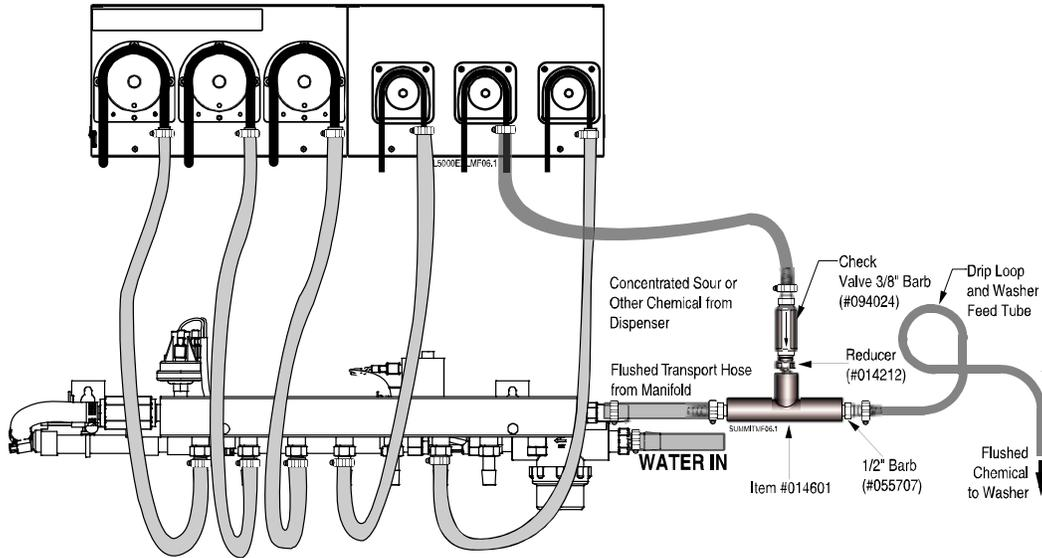

Figure 6a. XL Flush Manifold, Mounted on Wall with Sour Flush hook-up
*To prevent the mixing of any chemicals, the XL, in combination with the XL flush manifold will flush the manifold with water before and after chemicals are pumped. Despite this safeguard, you must not run sour and bleach or other incompatible chemicals together into the manifold. Instead, route one to the manifold and the other downstream via a separate delivery line. A Sour Flush Kit (#069505) is available for this type of installation. See Figure 6a and **Routing Incompatible Chemicals** later in this section.*
For safety reasons, you must not run sour and bleach or other incompatible chemicals together into the E or XL manifolds or into the same section within the Tunnel Flush manifold. Instead, route one to the manifold and the other downstream. Because the incompatible chemical’s delivery tube is not flushed, the product can remain in the tube, dripping onto the washer feed hopper or collecting in the washer shell. Over time, this could cause corrosion, even on stainless steel. Figure 6a above describes how to configure your system to prevent chemical drip. These parts are all in our Sour Flush Kit, item #069505.